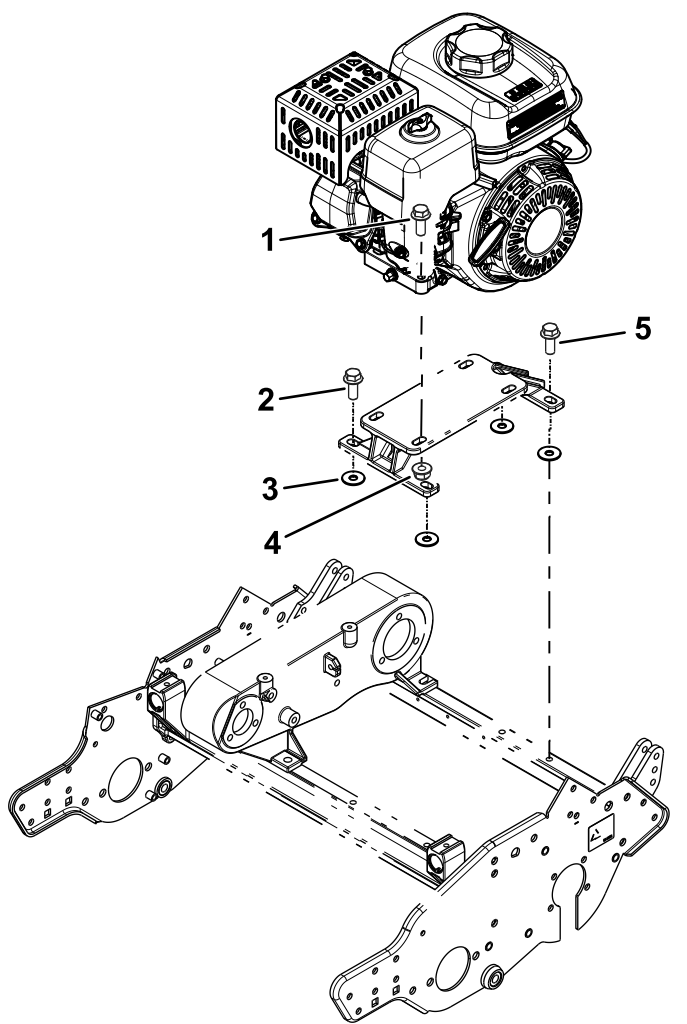

Figure 4
3. Install the engine-mounting bracket to the machine with the previously-removed bolts and 4 washers (3/8 x 1-1/8 inch) as shown in Figure 4.
Loosely install the rear left engine bolt (shown in Figure 4).
4. Mount the engine onto the engine-mounting bracket using the previously-removed bolts and nuts (Figure 4).
8. Remove the rear left bolt from the engine base (Figure 4) and use the bolt to secure the R-clamp and throttle cable to the engine base.
10. Tighten all of the engine mounting and engine-mounting bracket bolts (Figure 4).